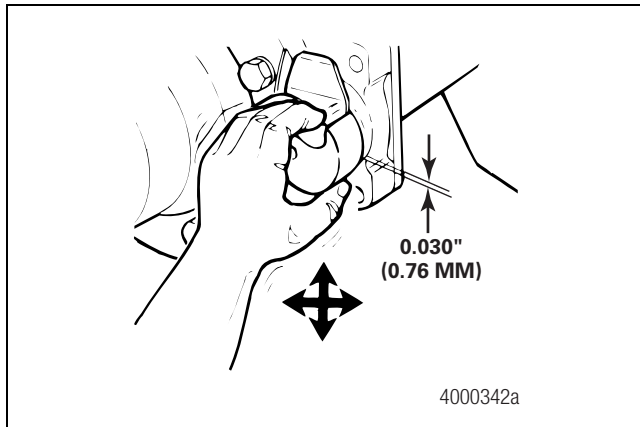

Figure 5.13
9. Determine if the camshaft bushings need replacement by using a dial indicator to check the radial movement of the camshaft. Figure 5.13.